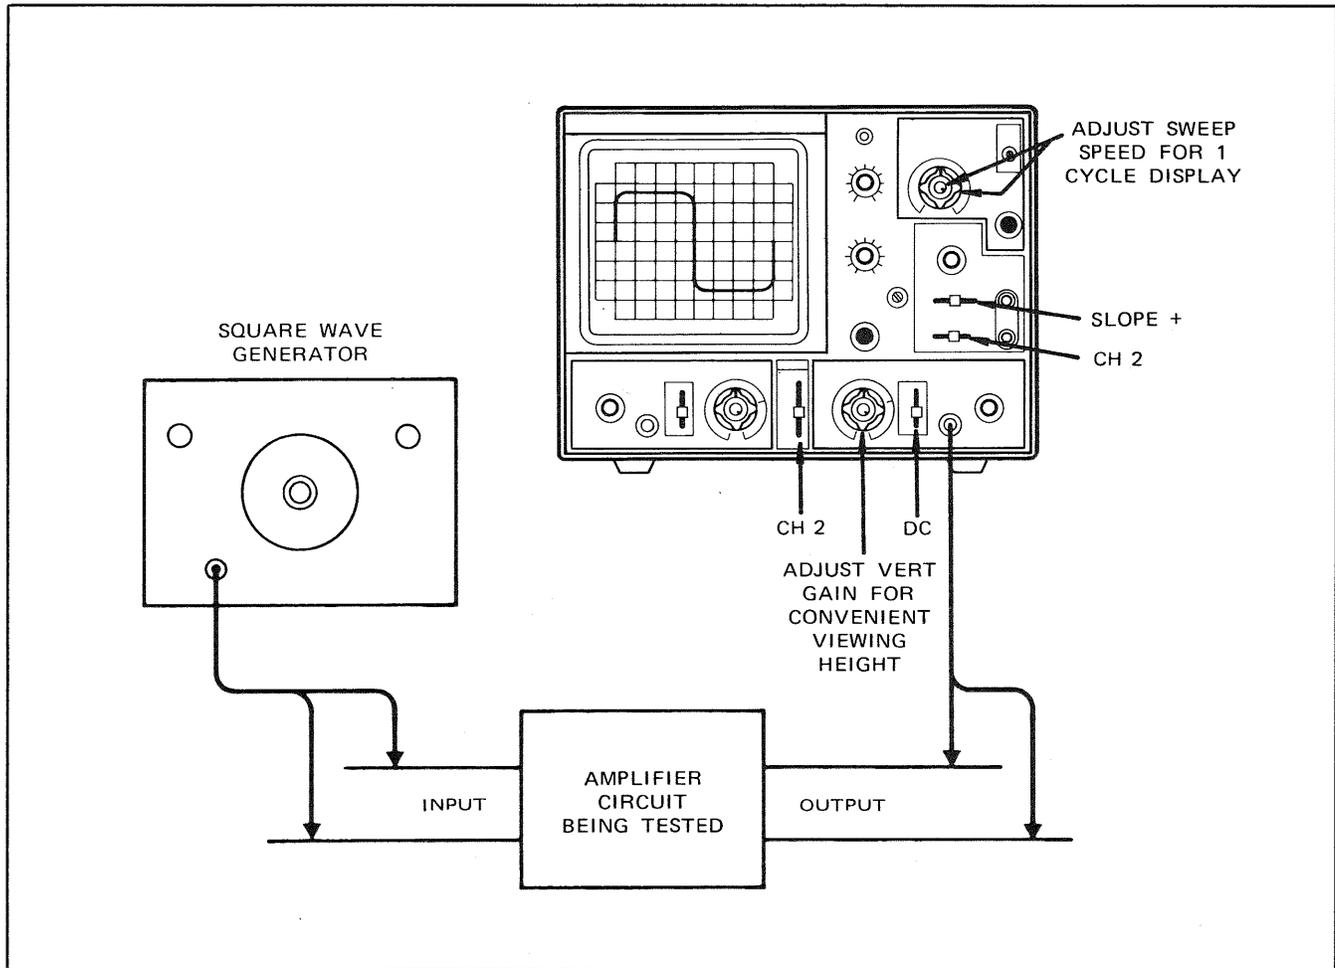

Fig. 25. Equipment set-up for square wave testing of amplifiers
4. The resulting Lissajous' pattern shows the ratio between the two frequencies (see Fig. 25).
Testing Procedure (refer to Fig. 25):